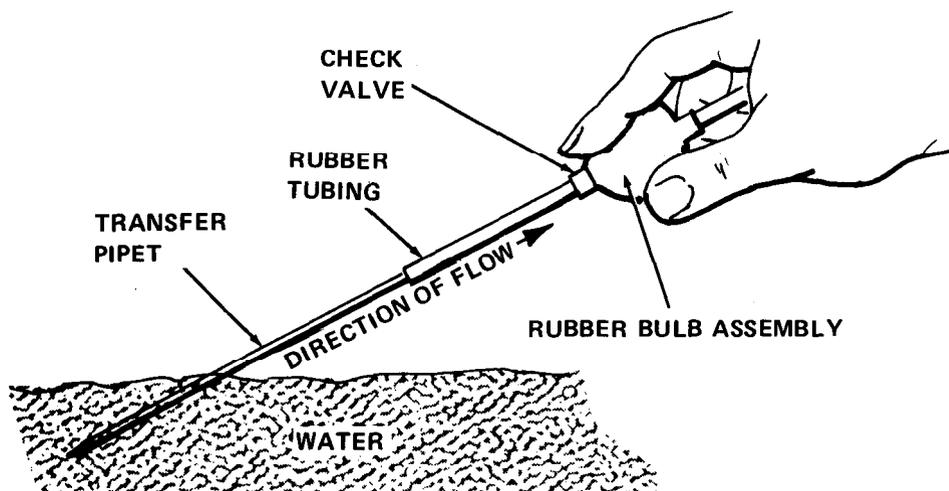

Figure 2-3. Rubber Bulb Pipet Filter
(1) Serological Pipets. Serological pipets are long tubes with a series of calibrated marks to indicate the volume of liquid that will be delivered by the pipet. The calibrated marks may extend to the tip of the pipet or may only be on the straight portion of the tube. Fill serological pipets to the zero mark and discharge the sample by allowing the sample to drain until the meniscus is level with the desired mark. If the serological pipet has calibrated marks extended to the tip of the pipet, the sample must be blown out of the tip for accurate sample measurements.
(2) Transfer Pipets. Transfer pipets are long tubes with a single ring to indicate the volume of liquid that will be delivered when it is filled to the mark. To discharge the sample from a transfer pipet, hold the tip of the pipet at a slight angle against the container wall and allow the sample or reagent solution to drain. Do not attempt to discharge that portion of the sample or reagent that remains in the tip of the pipet after draining. Transfer pipets are manufactured so that a reproducible amount of sample always remains in the tip of the pipet.
(3) The Rubber Bulb Pipet Filler. There are several types which may be used. The rubber bulb assembly can be used as illustrated (fig. 2-3). Insert the pipet into the sample; depress the bulb; restrict the intake end of the rubber tubing and release the bulb. Observe the pipet to ensure that the direction of suction is illustrated.